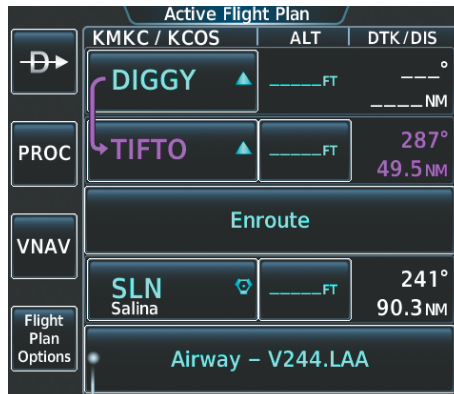

Figure 5-149 Selecting the Insertion Point
b) The desired entry point for V4 (TOP) must be entered. Touch the desired waypoint selection button (SLN) shown in Figure 5-149 to display the Waypoint Options Window.